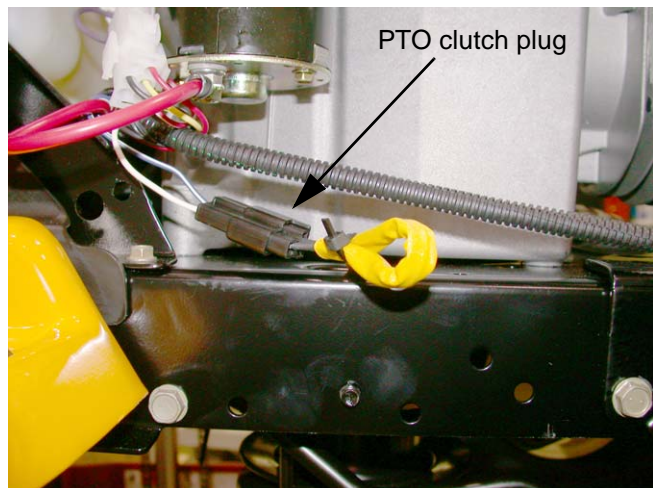

Figure 17.11
- 17.11. Disconnect the plug for the PTO clutch wire. It is located on the right side of the tractor, just above the opening in the frame that the wire passes through to reach the PTO clutch. See Figure 17.11.